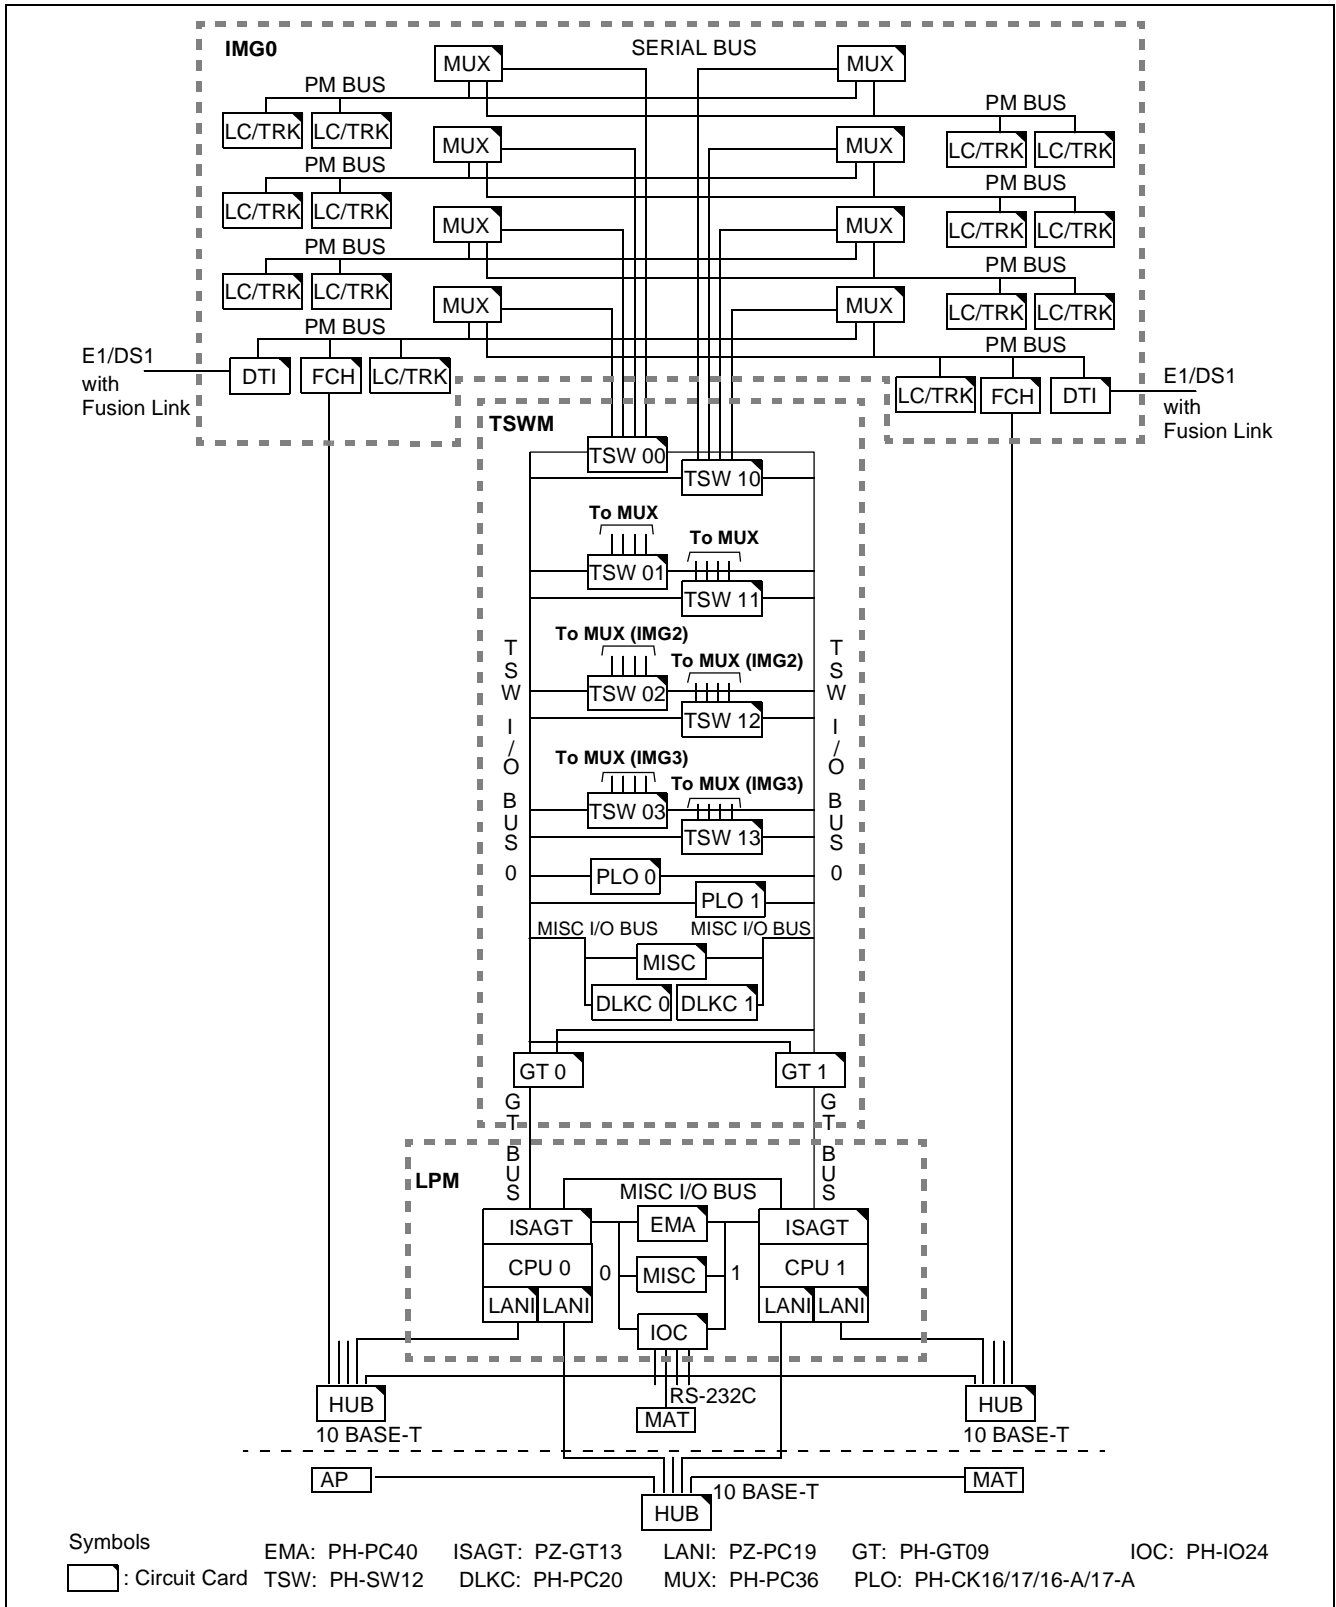
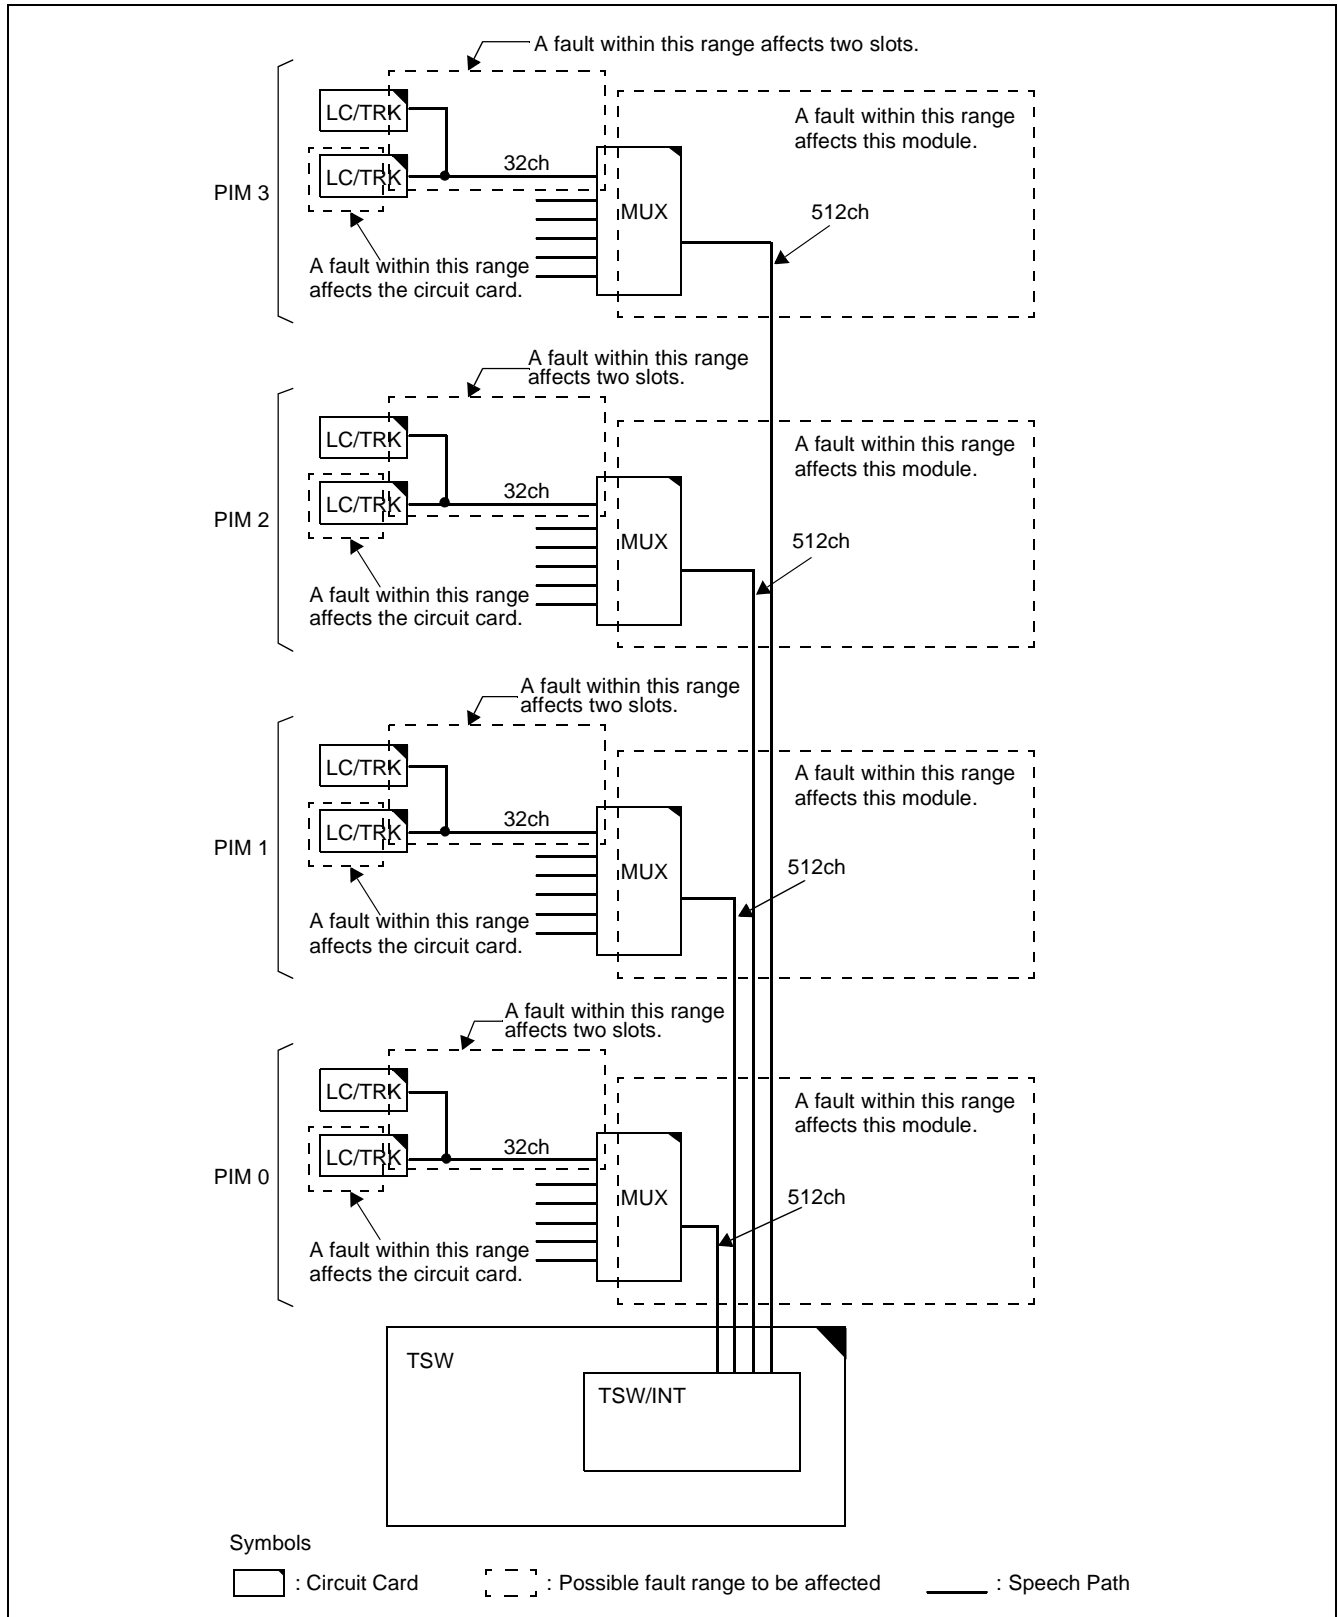

Figure 2-15 General System Block Diagram
Figure 2-18 Speech Path Range of Fault
- (5) As seen from the block diagrams in Figure 2-15 through Figure 2-18, if a fault occurs within the common portions to be controlled, all other associated portions are affected by that fault occurrence. If the range of faults is outside PIM fault, CPU/TSW system changeover is executed (only when the fault is detectable by the system).